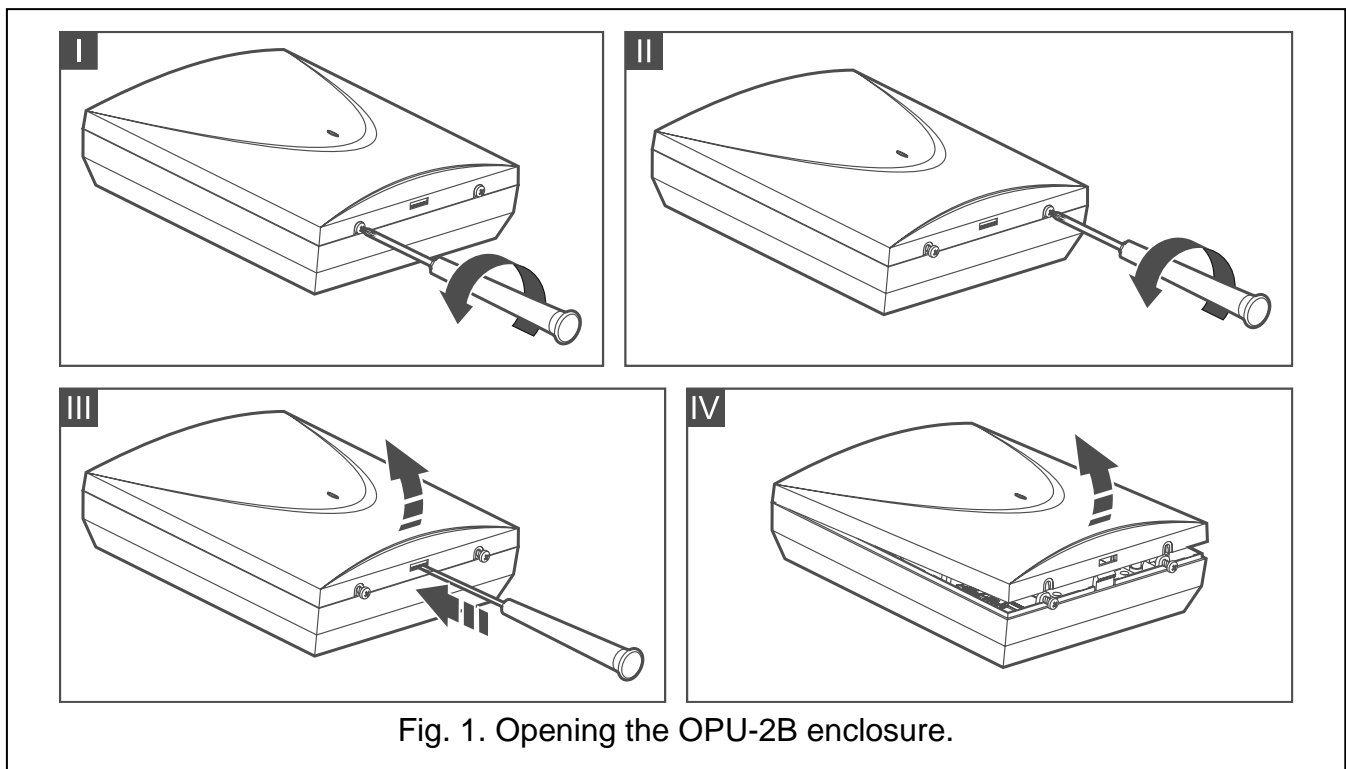

Fig. 1. Opening the OPU-2B enclosure.
1. Loosen the screws locking the enclosure cover and remove the cover (Fig. 1).